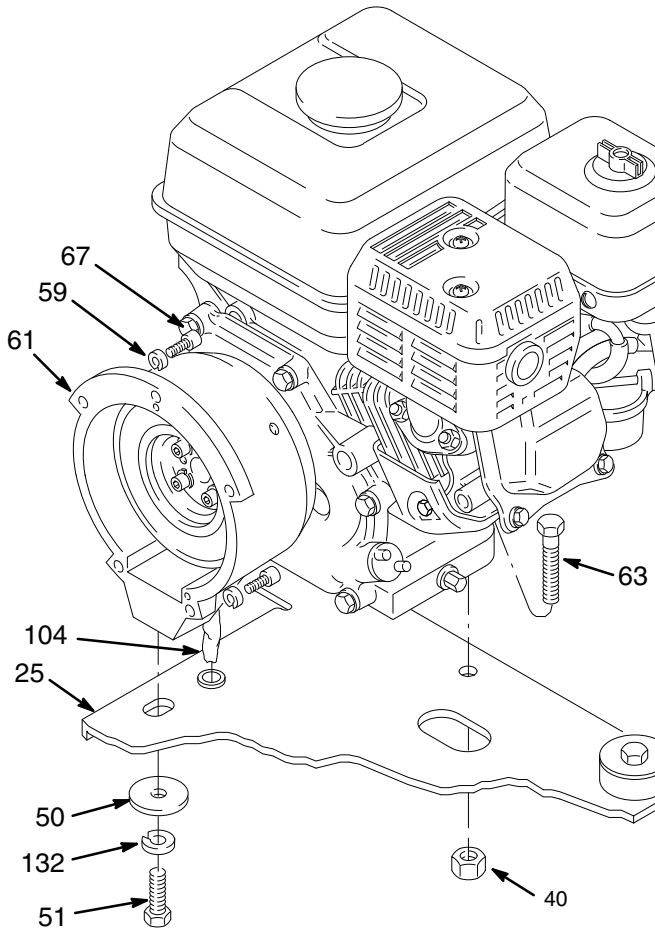

Fig. 42 0045
1. Working under the mounting plate (25) of the cart, remove the screw (51), lockwasher (132) and washer (50) which hold the clutch housing (61) to the cart. See Fig. 42.
2. Still working under the mounting plate, remove the two locknuts (40), and then pull the screws (63) out of the base of the engine. Disconnect the red wire from the engine lead. Disconnect the black and white wires (58) from the field. Pull the wires carefully through the grommets before removing the engine. See Fig. 42 and 43.